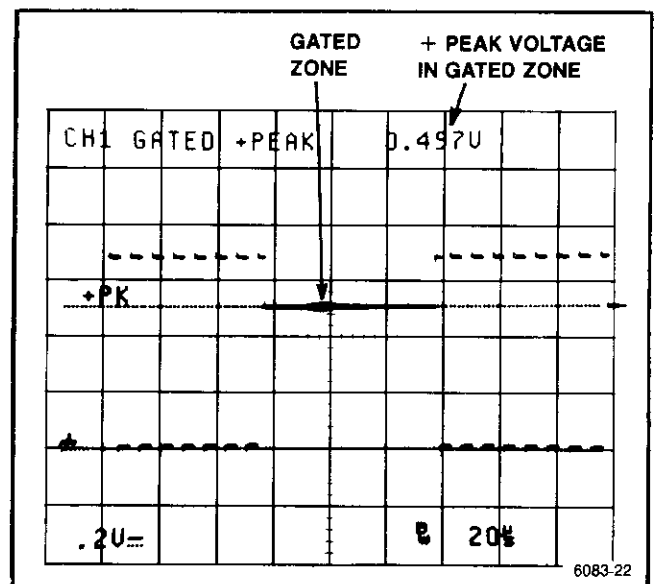

Figure 6-8. Gated voltage measurement.
3. Use the I- or DELAY control to position the intensified zone to the area of interest on the waveform to be tracked. (See Figure 6-8.)